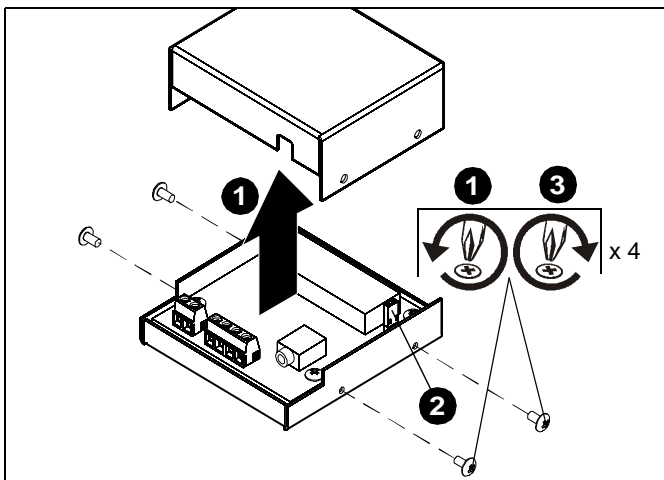

Figure 4
1. Remove four Phillips screws from housing and remove housing cover. (See Figure 4)
2. Remove jumper. (See Figure 4)